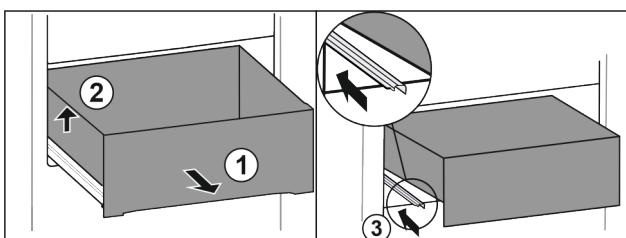

Fig. 113
- Pull out drawer as far as it will go. Fig. 113 (1)
- Lift drawer on the left. Fig. 113 (2)
- Insert left rail. Fig. 113 (3)